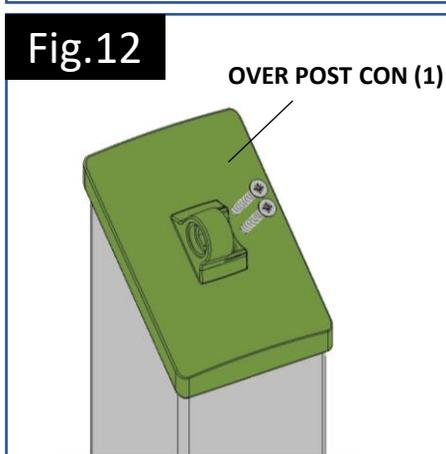
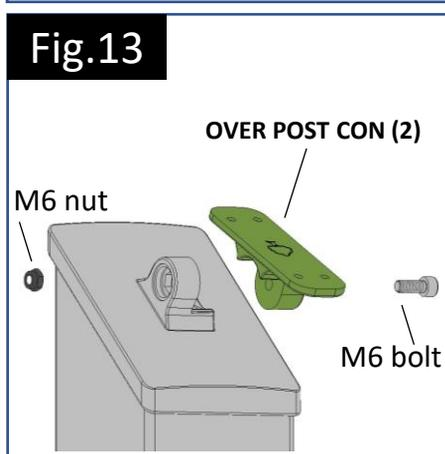

Fig.12
Fig.13
To fix over post connector to top of intermediate newel post, apply bead of multi purpose adhesive to top of newel. Offer over post connector P1 (1) onto top of newel post. Pilot drill through 2 x screw holes using 3.5mm dia bit. Secure connector to top of post using 2 off, 4.8mm x 40mm screws supplied (**Fig.12**). Temporarily fit over post connector P2 (2) to base using M6 bolt and nut supplied but do not overtighten (**Fig.13**).
Fix **over the post connector** assembly to bottom and intermediate newels following instructions for **Figs.12 & 13**, so it looks like **Fig.36**.